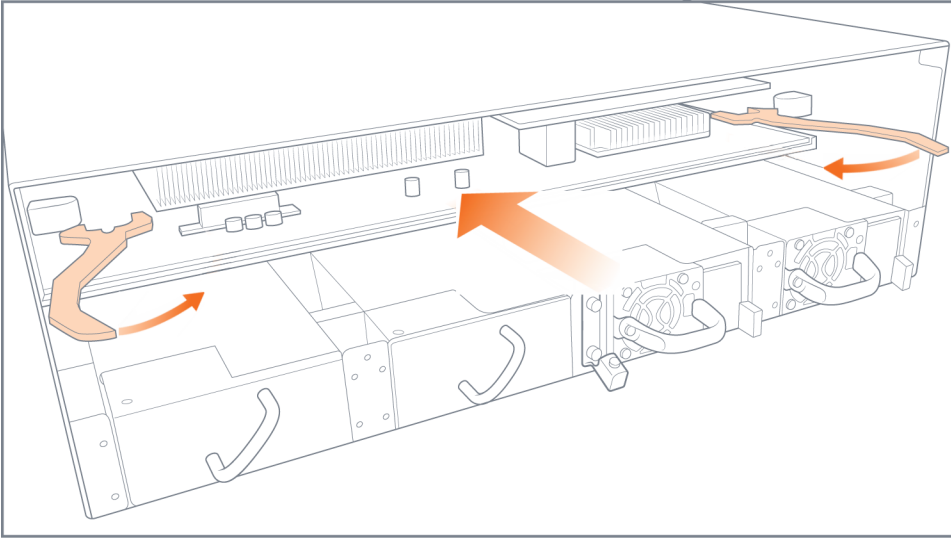

Figure 21: Control Card Ejector Handles
2. Swing both ejector handles inward as shown in Figure 21: Control Card Ejector Handles.